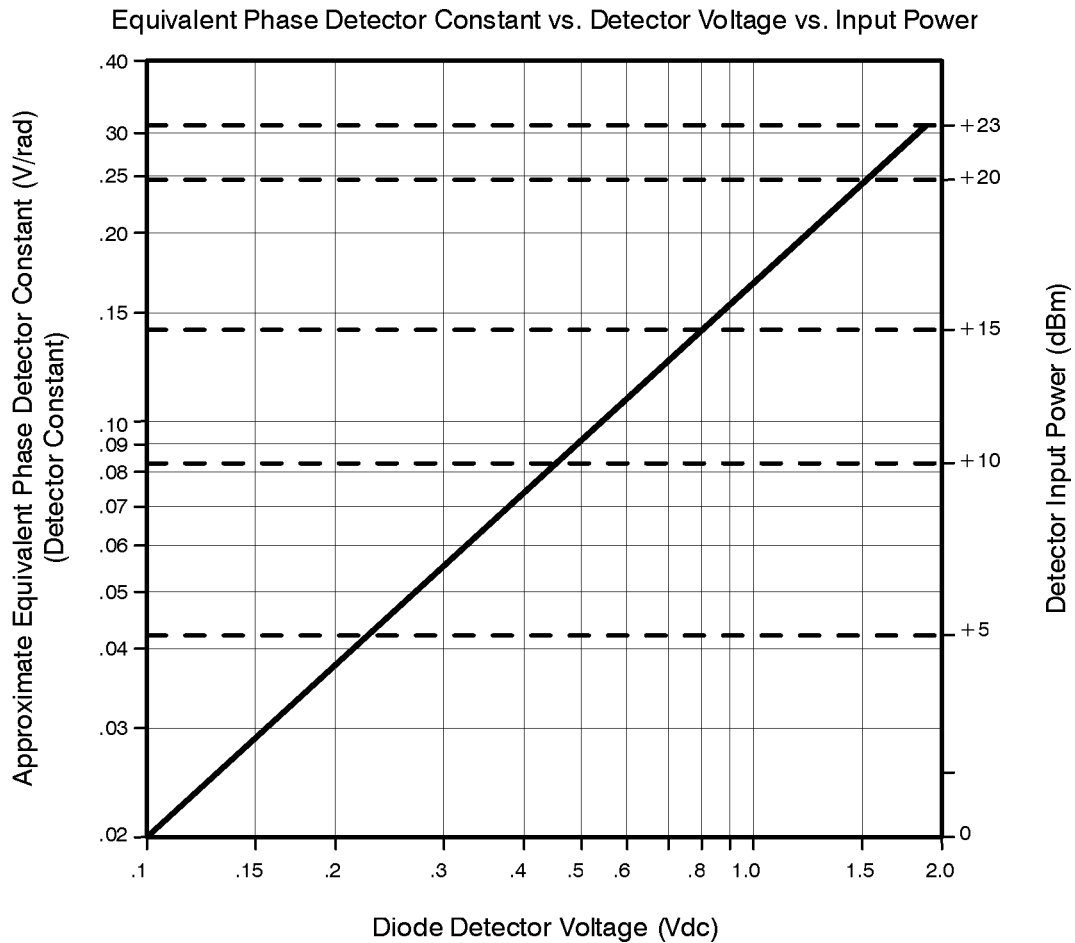

Figure 12-8 AM Detector Sensitivity Graph
- 3** Locate the drive level on the AM sensitivity graph (Figure 12-8), and enter the data.
- 3** Measure the monitor output voltage on the AM detector with an oscilloscope or voltmeter. Locate the diode detector's dc voltage along the bottom of the AM sensitivity graph (Figure 12-8). Moving up to the diagonal calibration line and over, the equivalent phase detector constant can then be read from the left side of the graph. The measured data will be plotted as single-sideband AM noise in dBc/Hz.